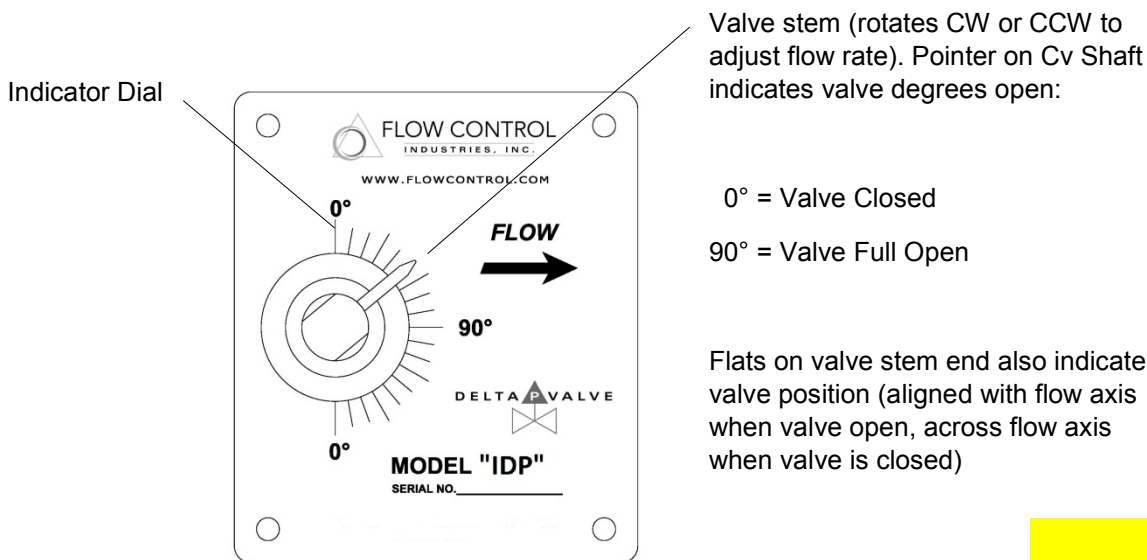

Figure 8: DeltaPValve Nameplate (8" IDP)
- If mounting electric or pneumatic actuator, mount so that it strokes to give the control sequence required. The direction of rotation of the valve stem can be either clockwise or counter-clockwise. See Fig. 8.
- The 8" IDP (200mm) size valves are furnished with a flow performance tag (see Example "A", Fig. 8, for flow tag in "gpm", and Example "B" for metric flow tag in liters per second). Using the nylon tie provided, attach the metal flow performance tag for the specific valve serial number through the hole provided in the actuator mounting bracket, or around the valve stem. Each valve is individually flow tested at the factory and has its own unique tag.